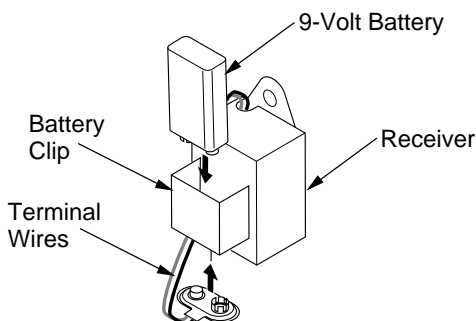

Figure 15 - Installing Battery in Receiver
5. Locate the battery clip mounted on the back of the receiver (see Figure 15).
7. Attach the terminal wires to the battery (see Figure 15).